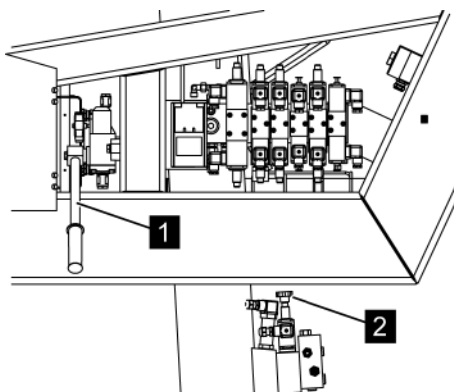

Fig. 122: Hand pump
3. ➤ Put the hand pump lever (Fig. 122/1) on the hand pump.
4. ➤ In order to be able to use the function [Lower telescopic arm], lock the proportional valve (Fig. 122/2).
Activate the desired valve (☞ Chapter 6.14 'Valve settings and operation' on page 112) by pressing it in firmly and at the same time pumping with the hand pump (Fig. 122/1) until the selected component has reached the desired position.
8. ➔ *After emergency operation, unlock the proportional valve (Fig. 122/2) again if necessary.*
- Make sure that the proportional valve (Fig. 122/2) is completely unlocked for normal operation.